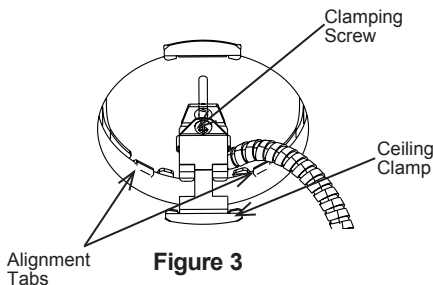

Figure 3
- Step 4.** Align frame over opening so that 4 tabs center the fixture in the hole (Fig. 3).